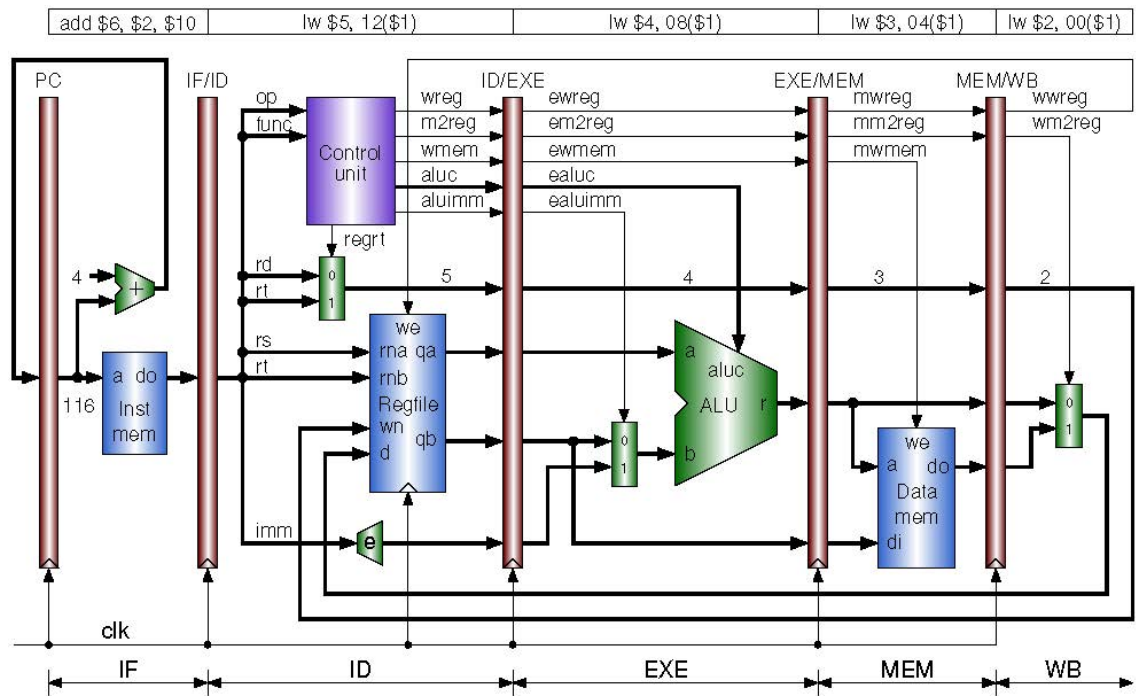
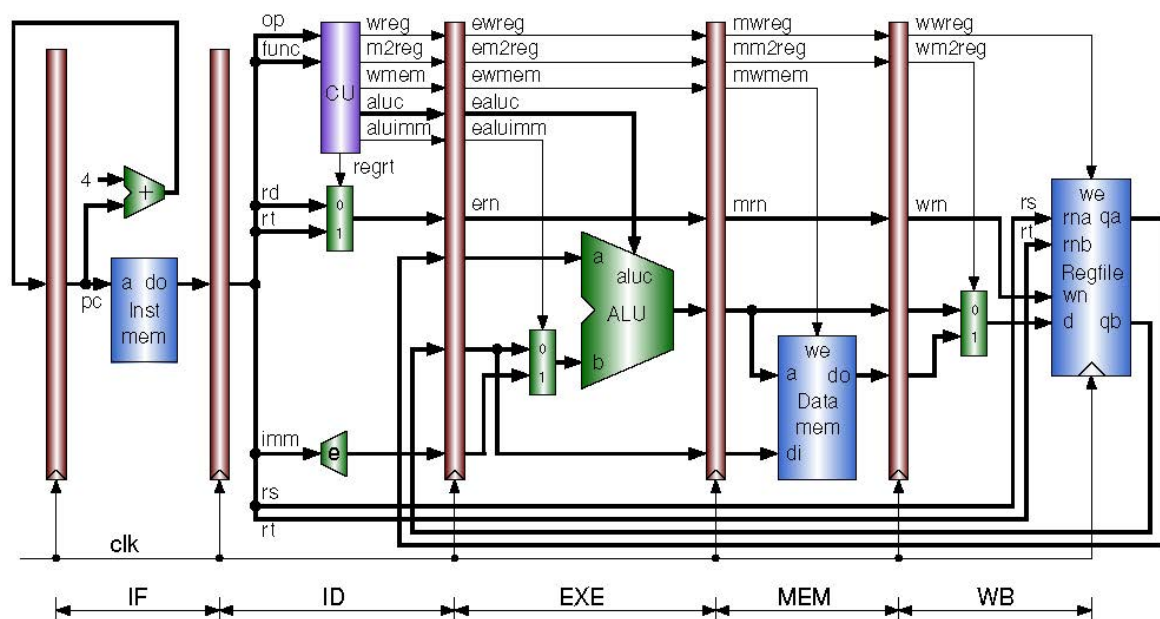
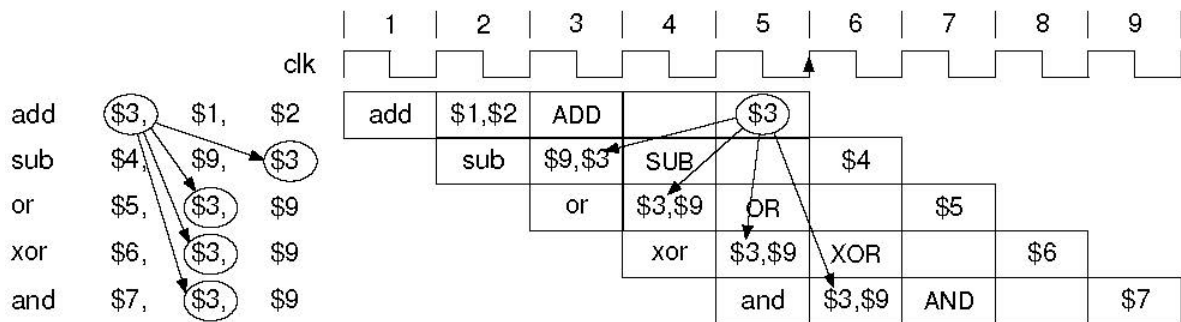

Figure 1 Pipeline write back (WB) stage
Figure 2 Writing result to the register file in the write back stage
Figure 3 Data hazard examples
Referring to Figure 1, in the fifth cycle the first instruction entered the WB stage. The memory data is selected and will be written into the register file at the end of the cycle. All the control signal have a prefix “w”. The second instruction entered the MEM stage; the third instruction entered the EXE stage; the fourth instruction is being decoded in the ID stage; and the fifth instruction is being fetched in the IF stage. All the six pipeline registers are updated at the end of the cycle (the destination register is considered as the six pipeline register). Then the first instruction is committed. In each of the forth coming clock cycles, an instruction will be committed and a new instruction will enter the pipeline. We use the structure shown in Figure 1 as a baseline for the design of our pipelined CPU.
10. Write a Verilog code that implement the following instructions using the design shown in Figure 1. Write a Verilog test bench to verify your code: (You have to show all the signals written into and out from the MEM/WB register and the inputs to the Regfile block in your simulation outputs)
In order to focus our attention on the WB stage easily, the baseline CPU shown in Figure 1 is redrawn by putting the register file on the WB stage where the execution result of an instruction is written as shown in Figure 2. The state of the art content can be read correctly in the ID stage after it is written at the end of its WB stage. Data hazards occur in the code example shown in Figure 3. You need to add the required components to solve the hazard problem and do forwarding if needed.
16. Write a Verilog code that implement the instructions using the design shown in **Figure 3**. Write a Verilog test bench to verify your code: (You have to show qa and qb signals that output from the Regfile block in your simulation outputs)